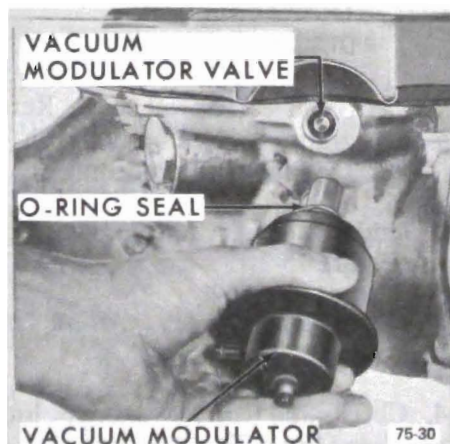

Figure 75-304
3. Install vacuum modulator valve. See Figure 75-304.